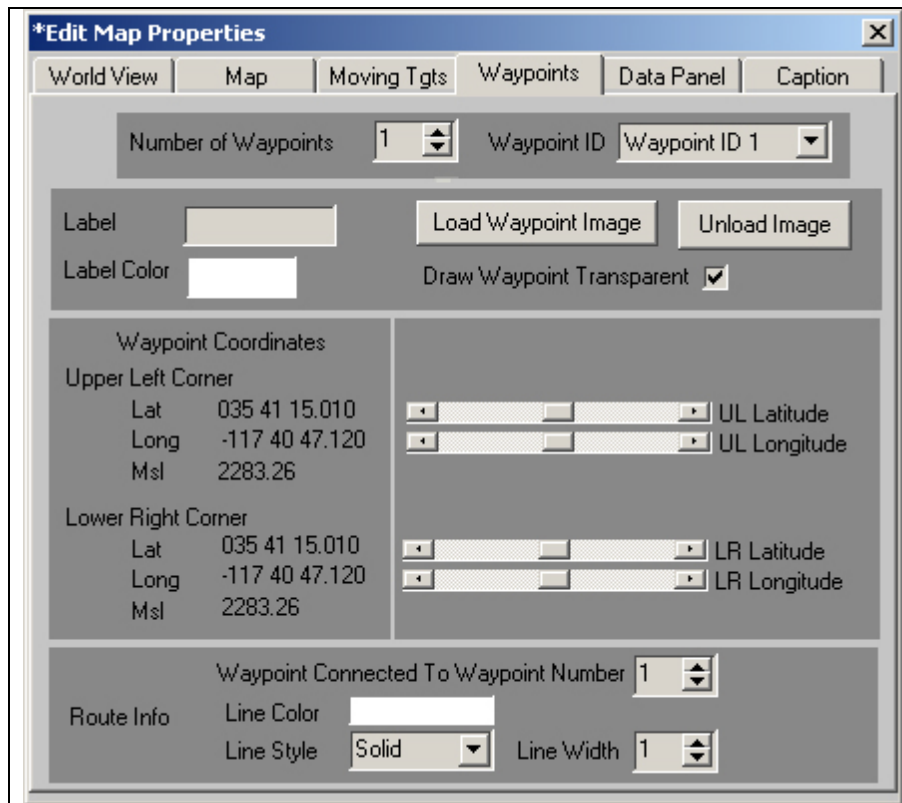

Figure 6-18 Map Widget Properties - Waypoints Tab
Waypoints are simply points on the earth. Using the waypoints tab, shown in Figure 6-18 on page 101, the user can select images to be displayed at these points. Up to thirty-two (32) waypoints may be displayed on the worldview.